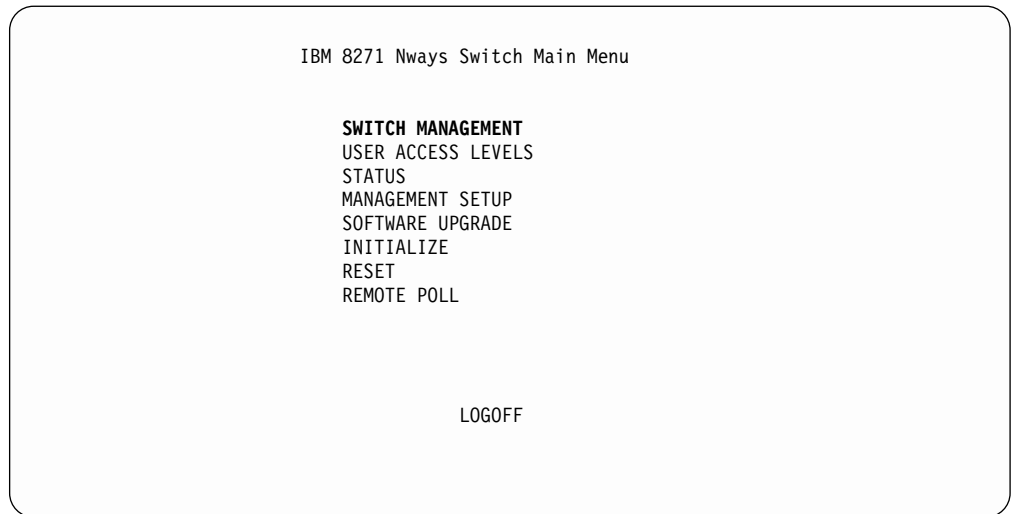

Figure 151. Nways Switch Main Menu
17. In both the **User Name** and **Password** fields, type **security** (the Password field is case sensitive). With the down arrow key, move the cursor to **OK** Press **ENTER**. Figure 151 on page 407 Displays.